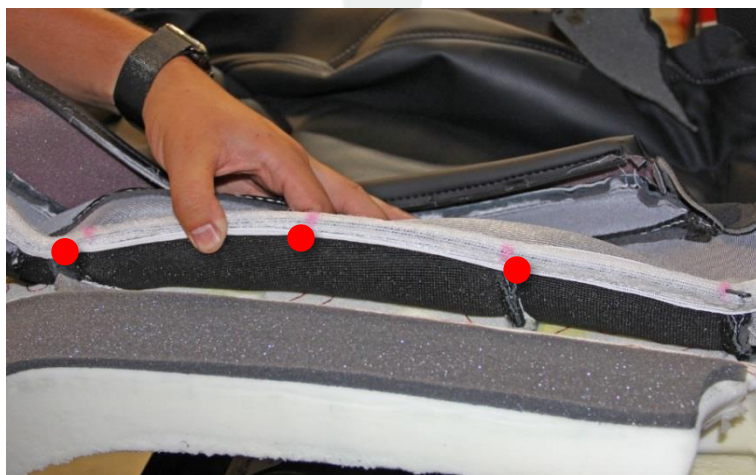

Figure 13
6. Mark 3 additional locations on the strip of hook-and-loop material (Figure 13):